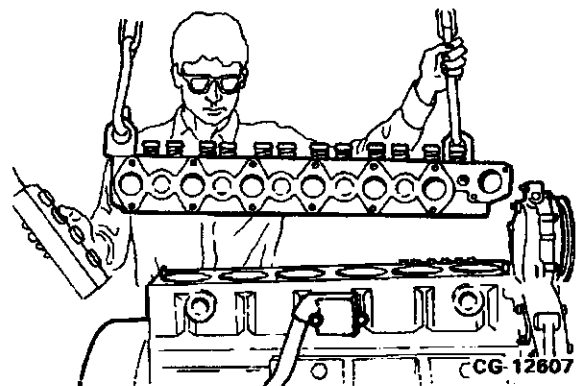

Figure 4.9. Remove Cylinder Head
7. Lift the cylinder head from the crankcase using appropriate lifting equipment. Refer to Figure 4.9.